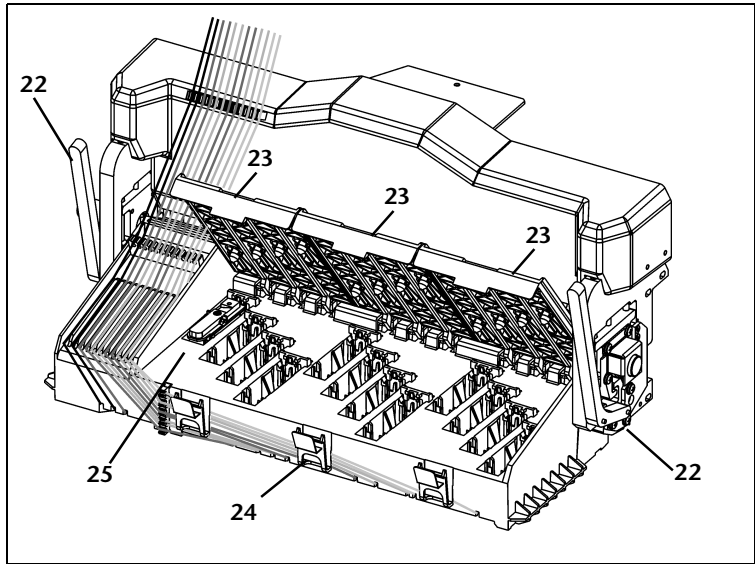
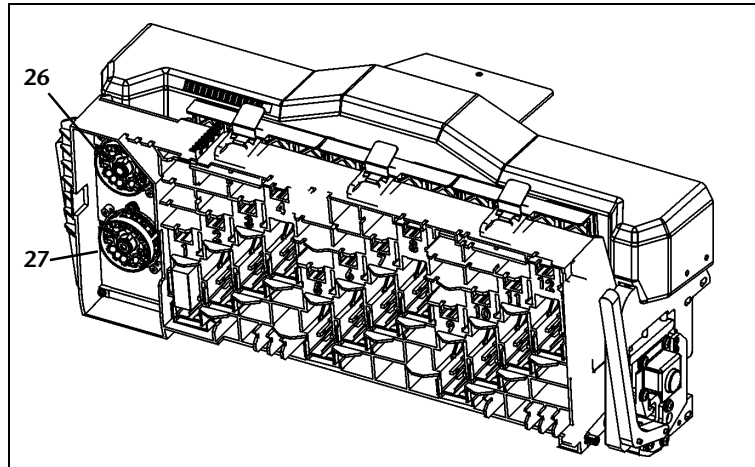

Fig. 1-2. Printhead carriage, printhead covers open
Fig. 1-3. Printhead carriage, tilted position for cleaning and accessing ink tubes
- 8 **Printhead carriage** — carries the printheads, digital imaging sensor, and photodiode across the length of the platen. (See also detail in Fig. 1-2. and Fig. 1-3. on page 1-20.)